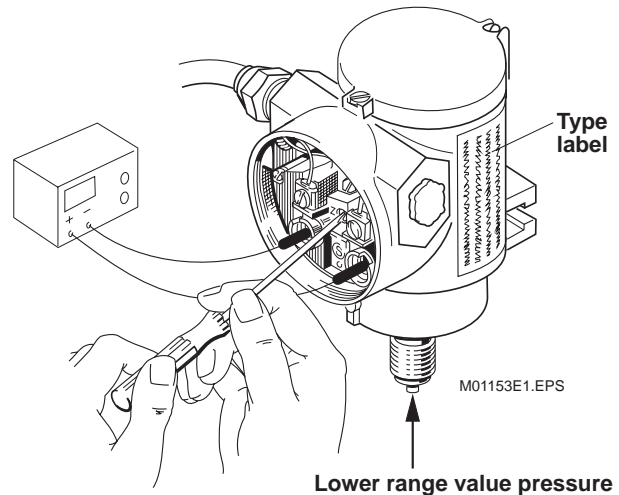

Fig. 16. Correcting the lower range value
7. Apply the pressure corresponding to the lower range value of the desired span to the measuring mechanism. Using a screwdriver, adjust the "Z" potentiometer (Fig. 16) until the ammeter indicates 4 mA (turning clockwise raises the output signal).
7. Apply the pressure corresponding to the lower range value of the desired span to the measuring mechanism. Using a screwdriver, adjust the "Z" potentiometer (Fig. 16) until the ammeter indicates 4 mA (turning clockwise rises the output signal).